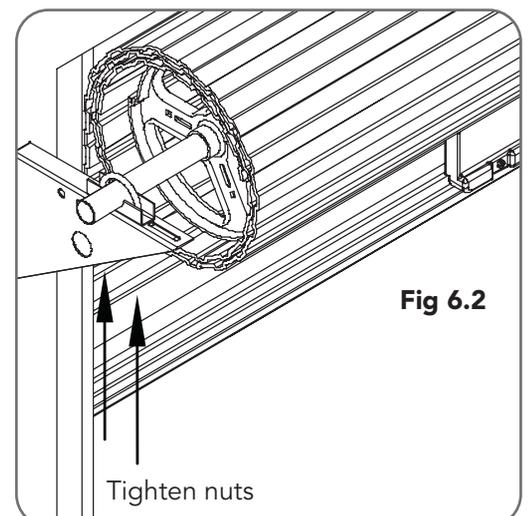

Fig 6.2
- a. At the end opposite to where the opener will be fitted, check that each nut securing the door axle, is tightened (to a torque setting of 40Nm) to the bracket. (**Fig. 6.2**)